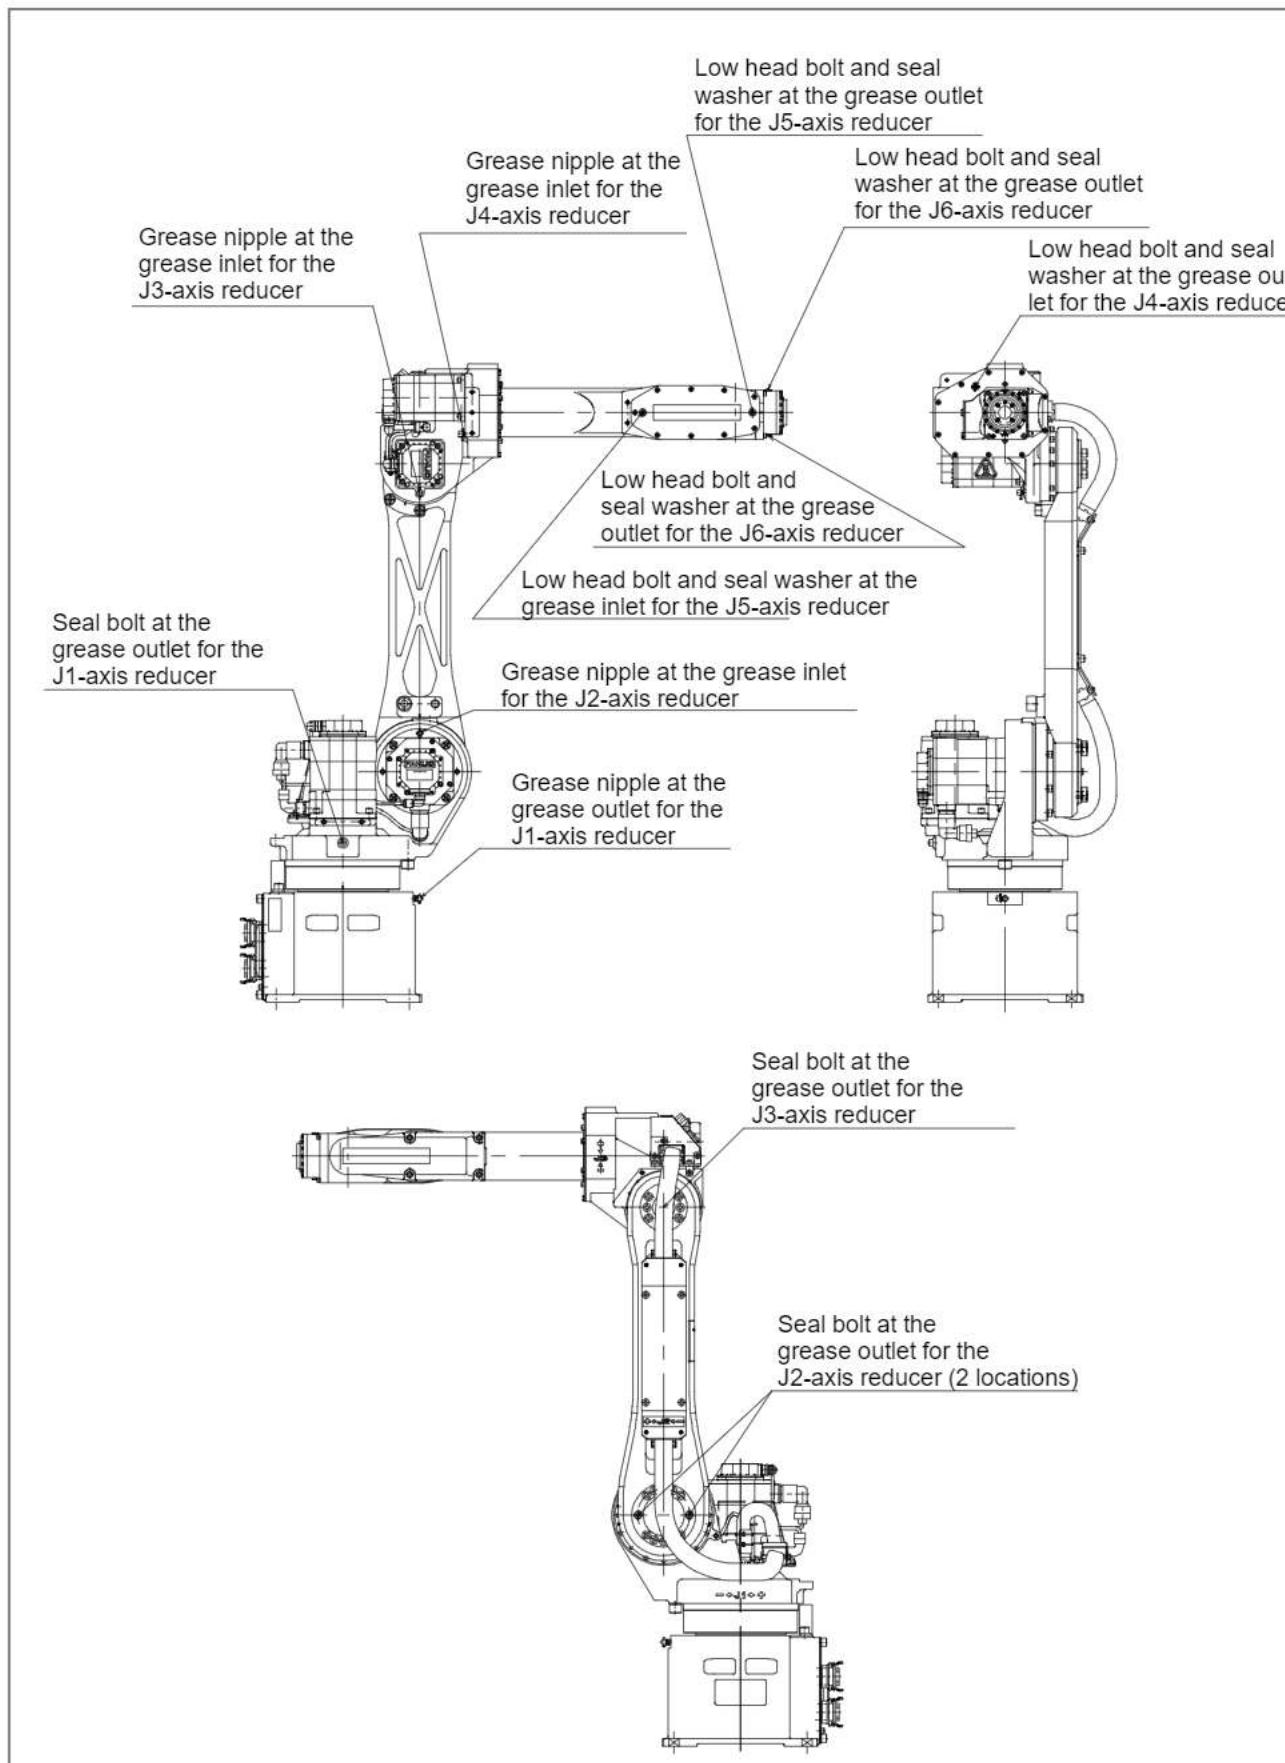

Fig 3.1 Greasing points
- ii) See Fig. 3.1 and Table 3.1 for greasing points and the method.
Follow the procedure stated below to replace the grease in the J1-, J2-, and J3-axis reducers and the J4- and J5-axis gearboxes once every three years or after 11,520 hours of operation. See Fig. 3.1 for greasing points.
- 1) Remove the seal bolts from the J1-, J2-, and J3-axis grease outlets shown in Fig. 3.1. Also remove the flat-bolts and sealing washers from the J4- and J5-axis grease outlets.